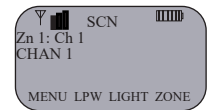

Figure 1
- Enter the zone number via the key pad and press the "ENT" softkey. (See Figure 1 & 2)
- Press the "Zone" softkey. Press the UP/Down keypad keys to desired zone and press the "ENT" softkey. (See Figure 1 & 2)
ENABLING/DISABLING SCAN (See Figure 1)